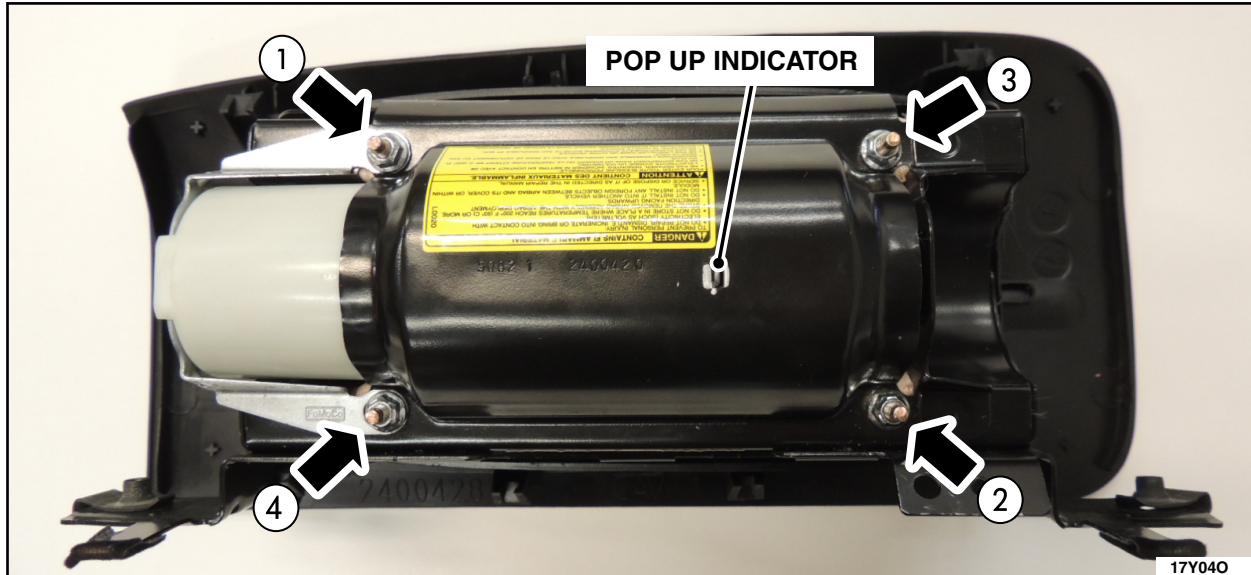

FIGURE 11
11. Install the four nuts. Assure pop-up indicator on air bag assembly is present. See Figure 11.